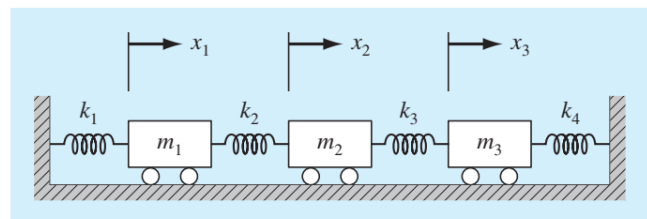

FIGURE P8.11
8.11 Consider the three mass-four spring system in Fig. P8.11. Determining the equations of motion from $\sum F_x = ma_x$ for each mass using its free-body diagram results in the